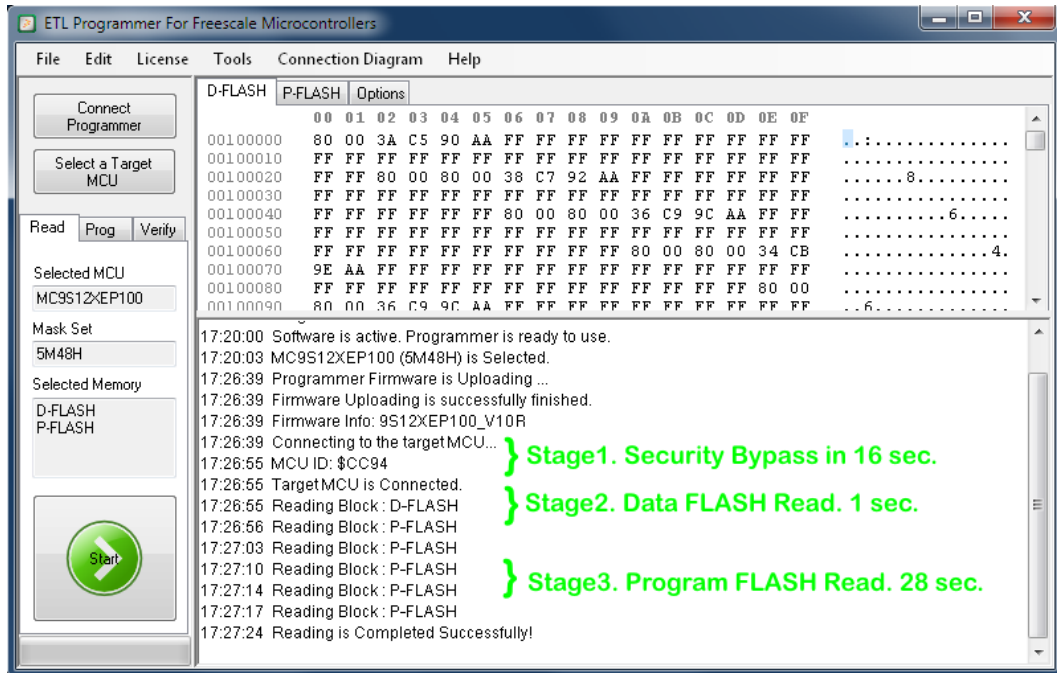

Figure 23 Read Procedure completed Successfully
- Wait until 'Reading is Completed Successfully' appears. The device read process includes three main steps (Figure 23):